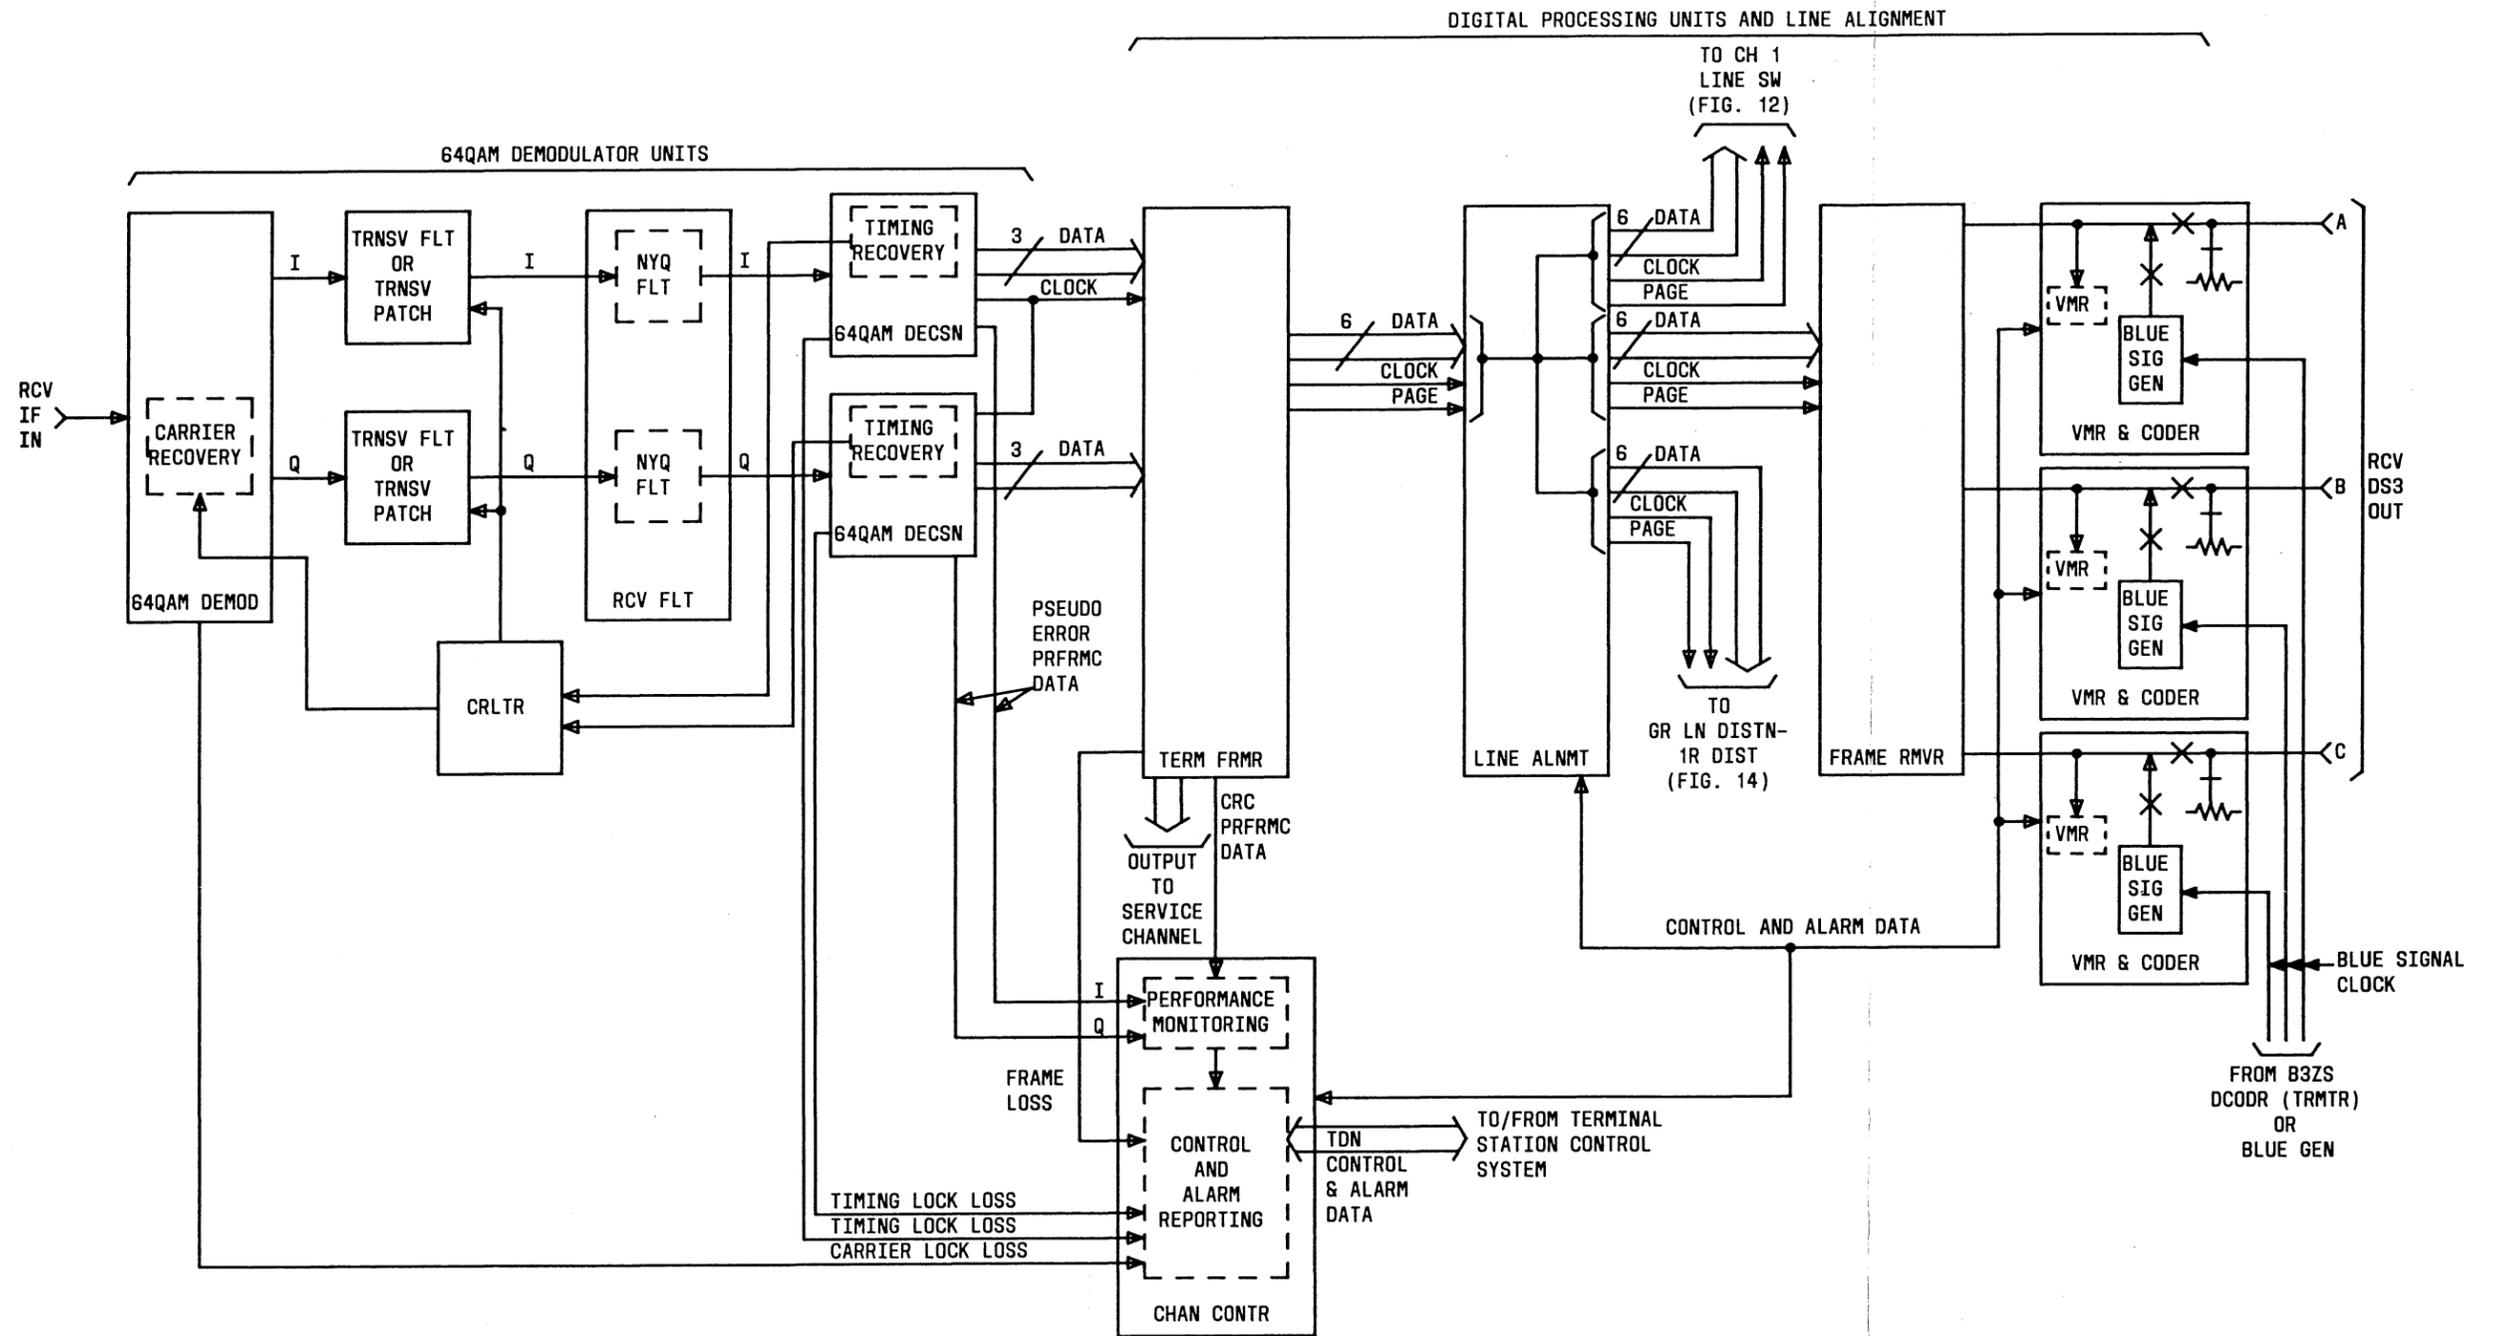

Fig. 13—135A Protection Channel Digital Terminal Receiver
- Figure 13—Protection Channel Digital Terminal Receiver